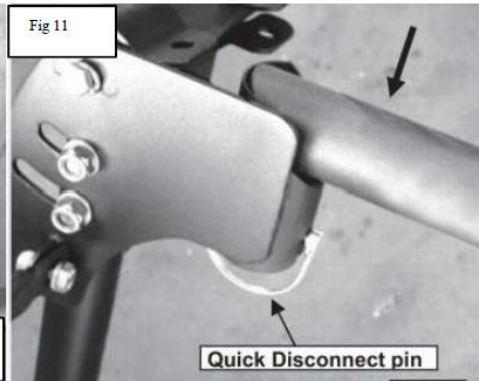

Fig 11
4. Attach Rear Cross Bar to Quick Disconnect Crossbar brackets using the supplied Quick Disconnect pins. (Fig 11)